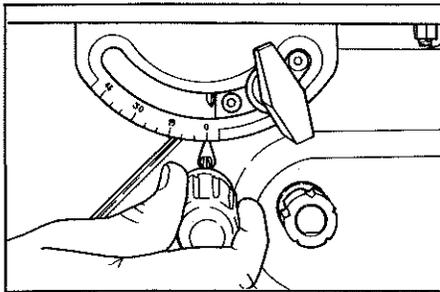

Figure 7. Set the table tilt indicator.
**8. Adjust the table tilt indicator.** Use a medium blade screwdriver to loosen screw (33). Set the tilt indicator (34) at "0." Tighten screw. (See Figure 7.)